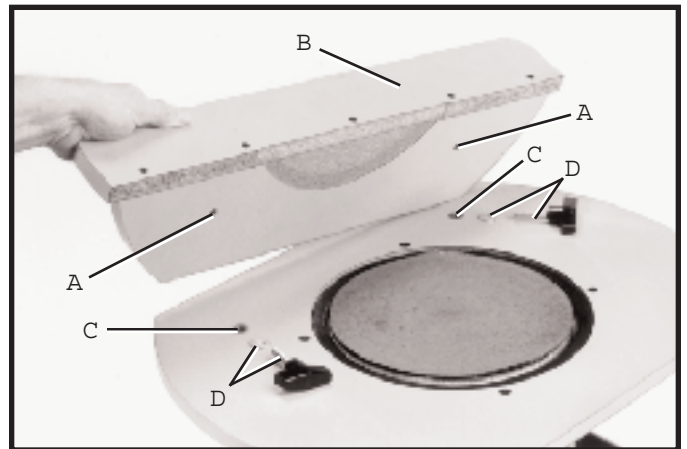
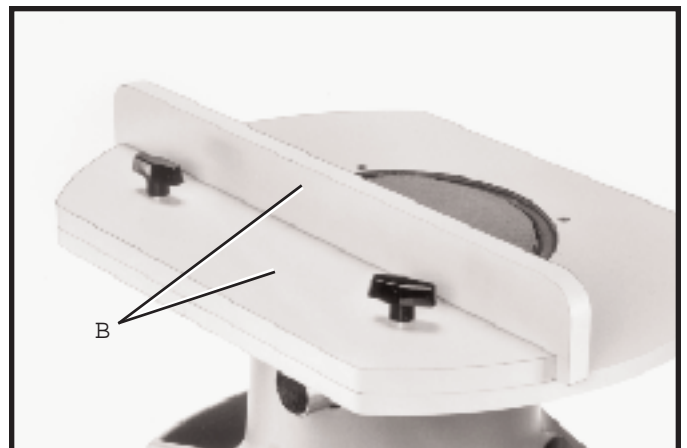

Fig. 10
Fig. 11
Align two holes (A) Fig. 10, in the underside of fence (B) with two holes (C) in the table and fasten fence (B) to the table from the top, with two lock knobs and flat washers (D). Fig. 11, illustrates the fence (B) assembled to the sander.